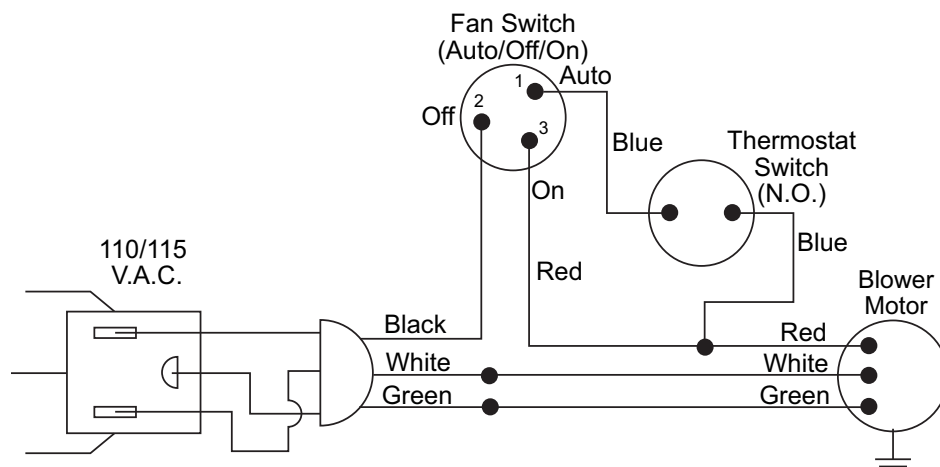

Figure 19 - Wiring Diagram For Blower Accessory Built-In Installation
3. A licensed electrician must follow the wiring diagram to connect incoming electrical supply to fan kit wiring harness (see **Figure 19**).